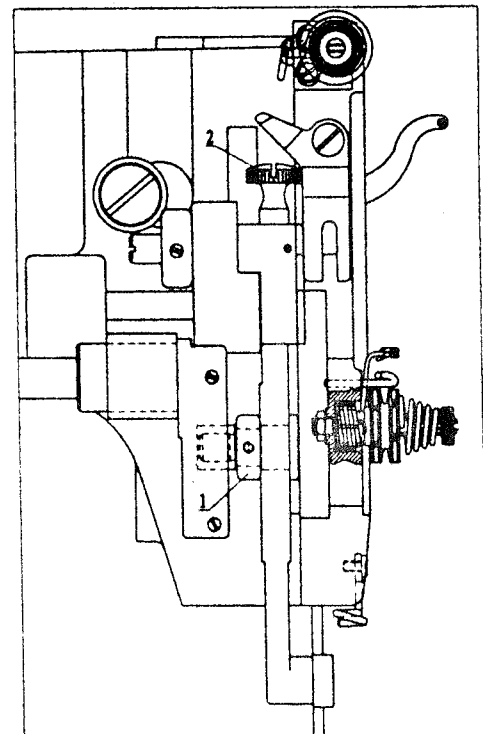

Fig.8
12、 FEEDING AMOUNT ADJUSTMENT FOR TOP FEED (Fig.8)